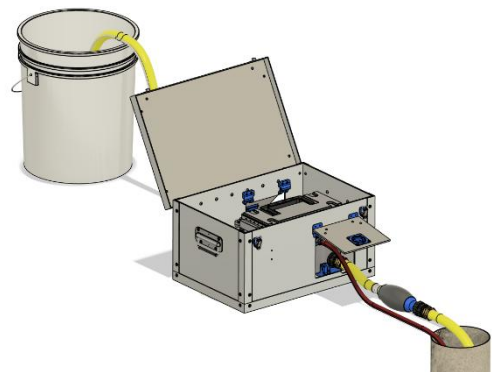

Figure 3-1 Test Setup
6. Place the box and water tank relative to the test hole as shown in Figure 3-1.
8. Connect the upstream and downstream hoses and electrical connectors according to the orientation shown in Figure 3-1.